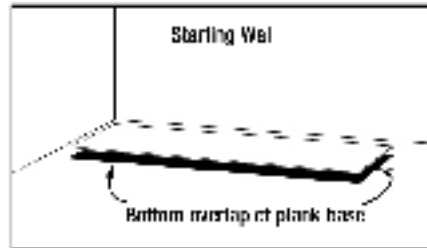

Fig. 2 Beginning the first row.
- If the first row of planks does not need to be trimmed in width, it will be necessary to cut off the unsupported tongue, so a clean, solid edge is toward the wall. Position the first plank so the grooved edge is facing you (Fig. 2). Install the product from left to right in the room. Occasionally, it may be necessary to install backwards. This may be done by sliding the grooves under the tongues and working them right to left, but this is more difficult.